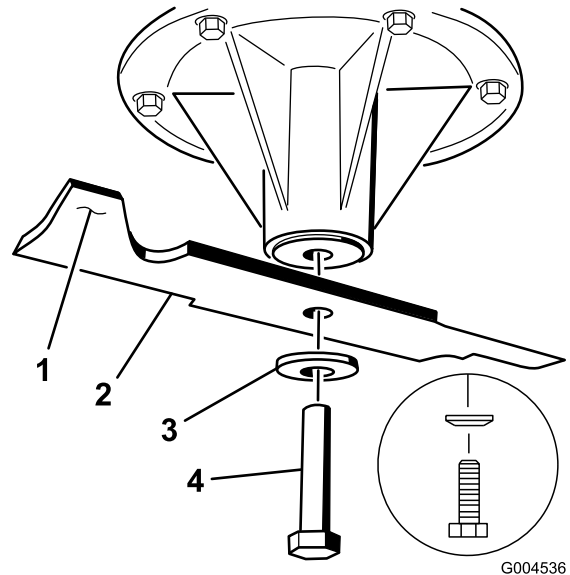

Figure 93
2. Remove the blade bolt, curved washer, and blade from the spindle shaft (Figure 93).